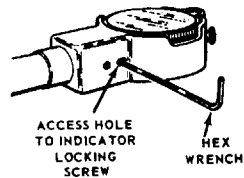

FIGURE 9
1. See Figure 9. Insert 3/32" Hex Wrench through Access Hole and loosen Indicator Locking Screw 1/2 turn only.